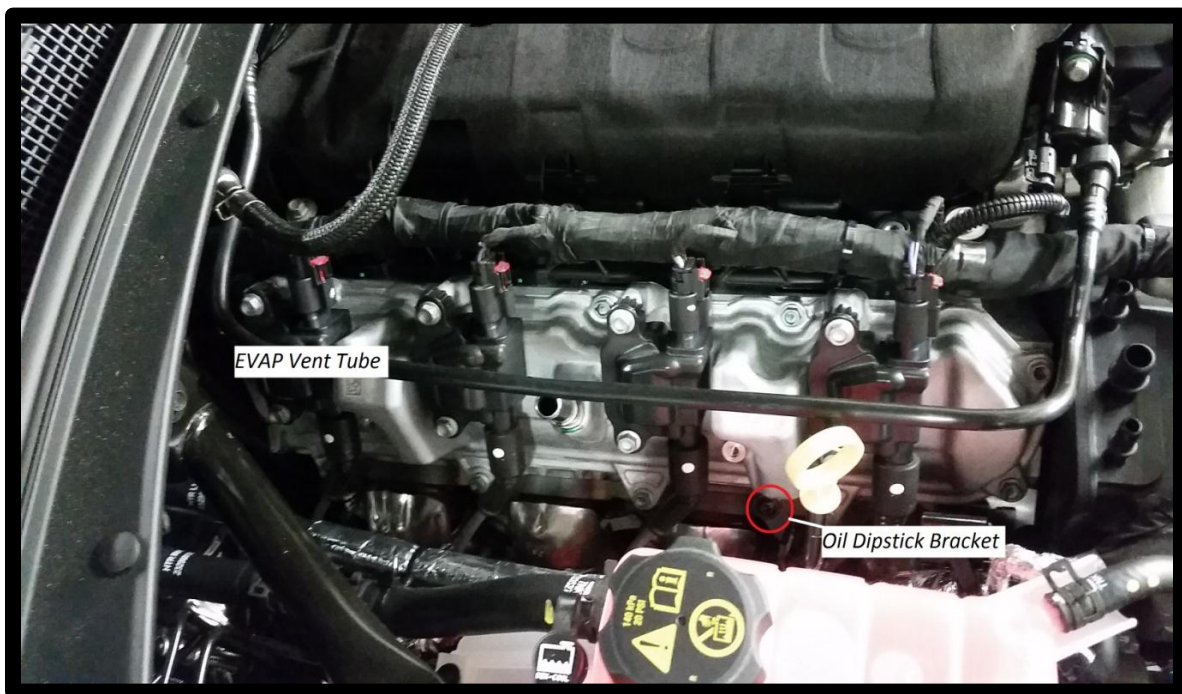

Figure 24: Evap Vent Tube & Oil Dipstick Bracket
28. On the passenger side also remove the factory evap vent tube, which will be reinstalled, and the bracket securing the oil dipstick tube to the valve cover, see Figure 24.